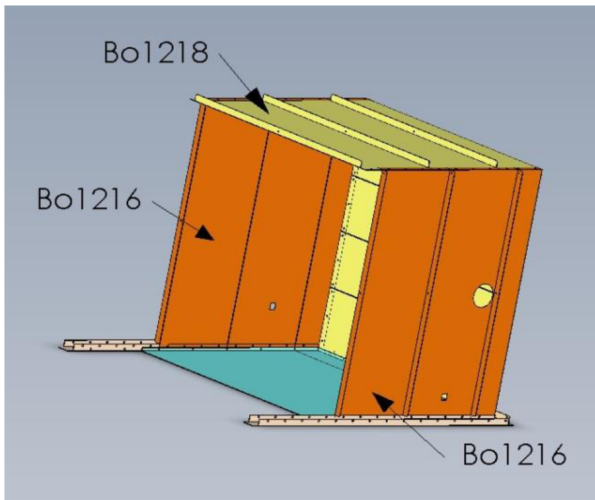

Figure 5
5) Install panels BO-1216 along with panels BO-1218. Install one side panel on each side with one corresponding ceiling panel or you will most likely have problems installing. *See figure 5.*